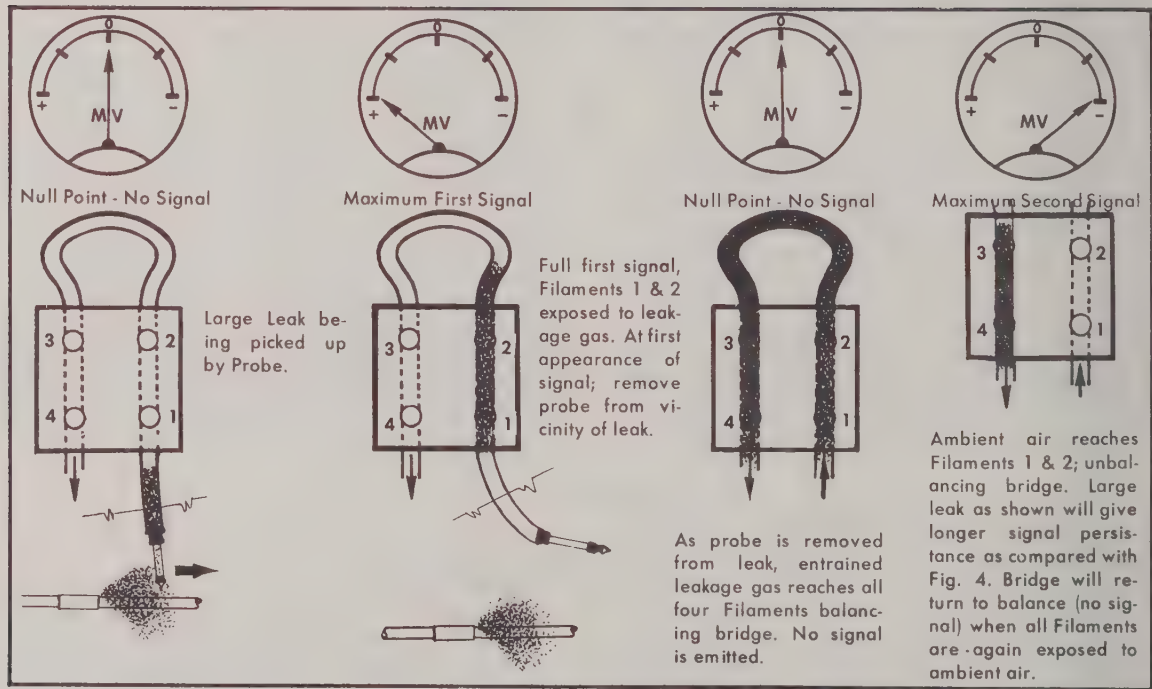

Fig. 5 Case B; Double Signal of Longer Duration Caused by Large Leak
- B. A double signal, both of longer duration due to a heavy leak (Fig. 5).